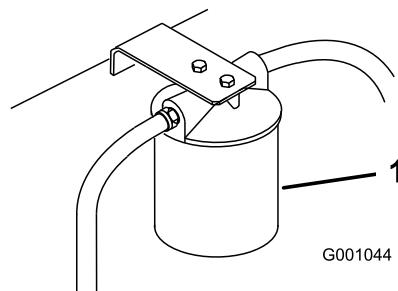

Figure 65
4. Place drain pan under filter, remove the old filter and wipe the filter adapter gasket surface clean (Figure 65).